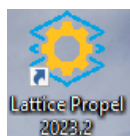

Figure C.13. Propel 2023.2 Application
- Double-click **Lattice Propel SDK 2023.2** to open the dialogue box as shown in Figure C.13.